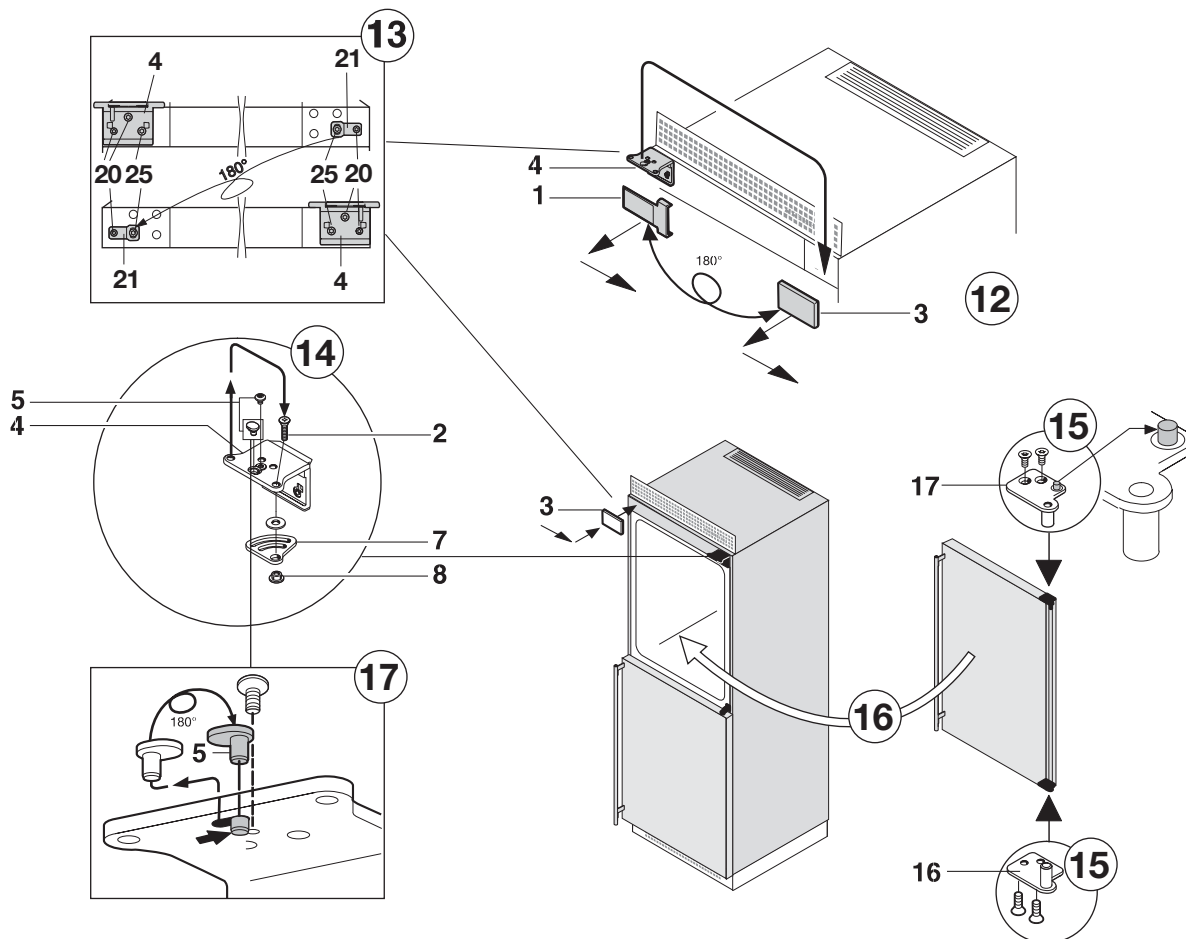

Figure 13
12. **Figure 13:** Lift up cover (3) on handle side, push outward; lift up cover (1) on hinge side and pull off.
13. Unscrew mounting plate (21): first mounting screw (20), then inner retaining screw (25).
- Unscrew hinge (4): first remove the mounting screw (20), then retaining screws (25). Fit hinge (4) to opposite side: for easy assembly, fit hinge from above and first tighten with the upper retaining screw (25) M5, then screw (25) and finally mounting screw M4 (20).
- Turn mounting plate (21) 180° and screw tight again on the new handle side: first retaining screw (25), then mounting screw (20).
14. Remove the eccentric (5) with the retaining screw in the hinge (4).
15. On the upper door: Reinstall the door fittings (16, 17). Pay special attention to the fitting (17) with the stop.
16. Place the upper door on the center hinge, fit the bushing (8), stop (7) and washer on the door, swivel in the door at the top and insert and secure the hinge pin (2) from above through the hinge and stop.
17. Re-insert the eccentric (5) with the retaining screw as shown in the detailed drawing.